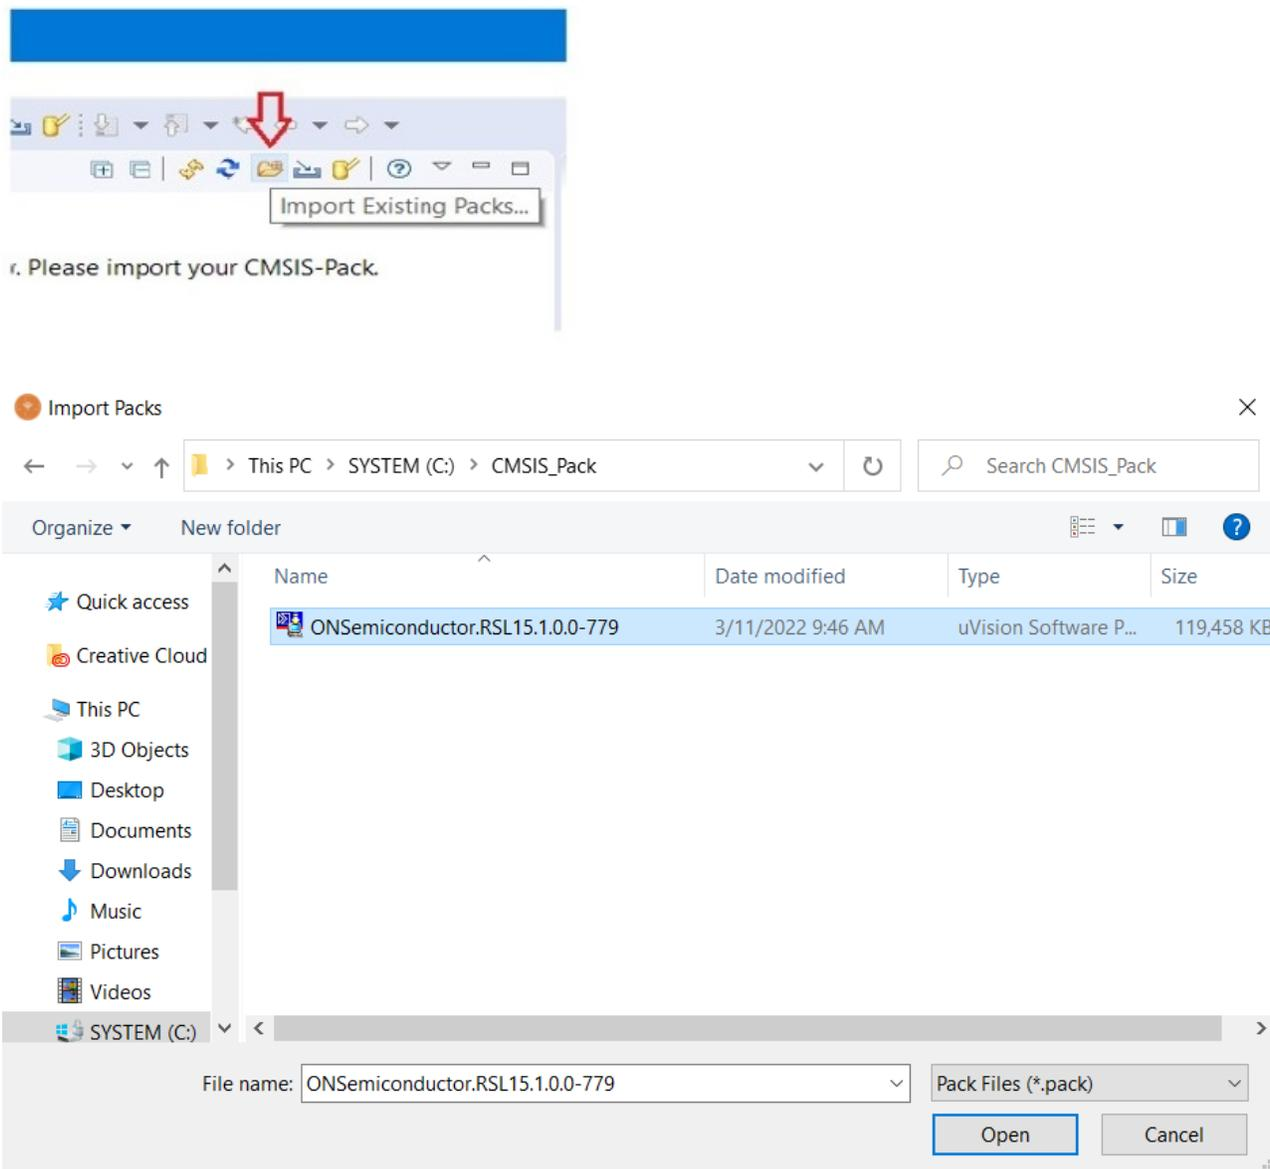

Figure 4. Installing the RSL15 CMSIS-Pack
- Click the **Import Existing Packs icon**, select your pack file (*ONSemiconductor.RSL15.<version>.pack*), where *<version>* is a number such as *1.0.0-464*, and click **Open**. (See the "Installing the RSL15 CMSIS-Pack" figure (Figure 4).)